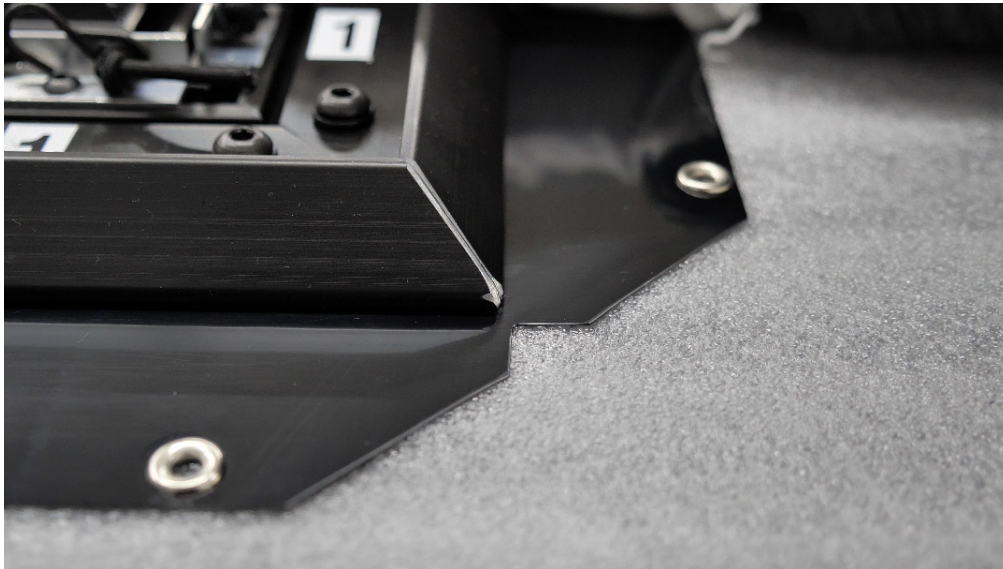

Figure 8: Align corners of screen with corners of frame
- B. Align all four corners of the screen with the corners of the frame (see Figure 8).